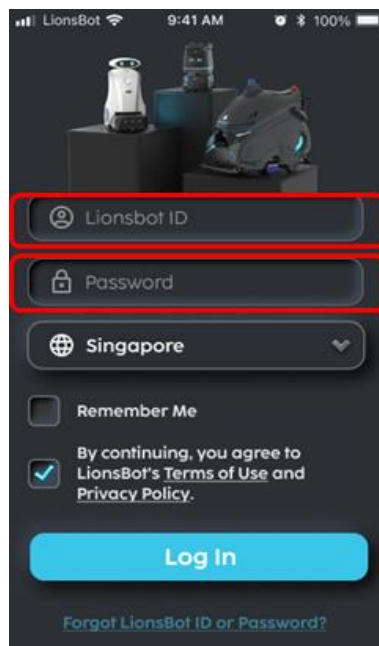

FIGURE 7-2
1. On the login page, enter the provided ID and password (Fig. 7-2).